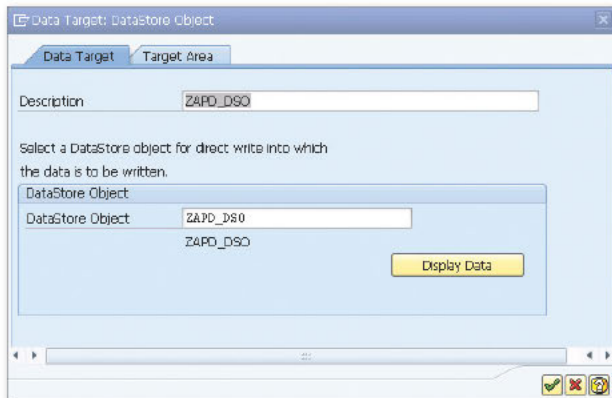

Figure 3 Specifying a Target for the APD
3. From the DATA TARGETS option, click on the icon for DSO. Enter the name of the DSO created in an earlier step as the data target (see Figure 3).